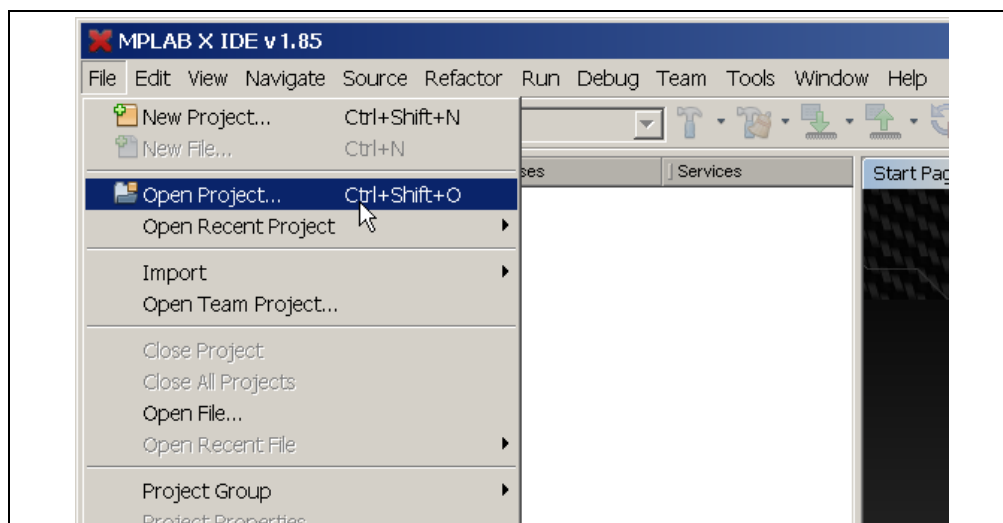

FIGURE 2-4: Opening Project in MPLAB X IDE.
7. Open MPLAB X IDE to load MCP19114 - Flyback Stand-Alone Firmware. From the File menu select Open Project (Figure 2-4).